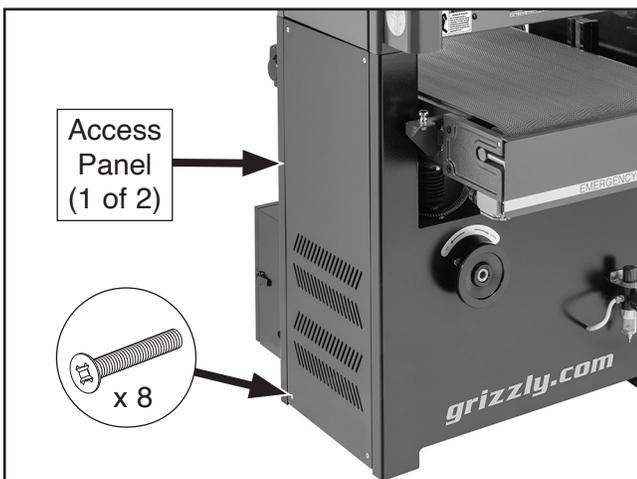

Figure 13. Location of access panels and screws.
3. Remove (8) flat head screws and (2) access panels (see **Figure 13**).